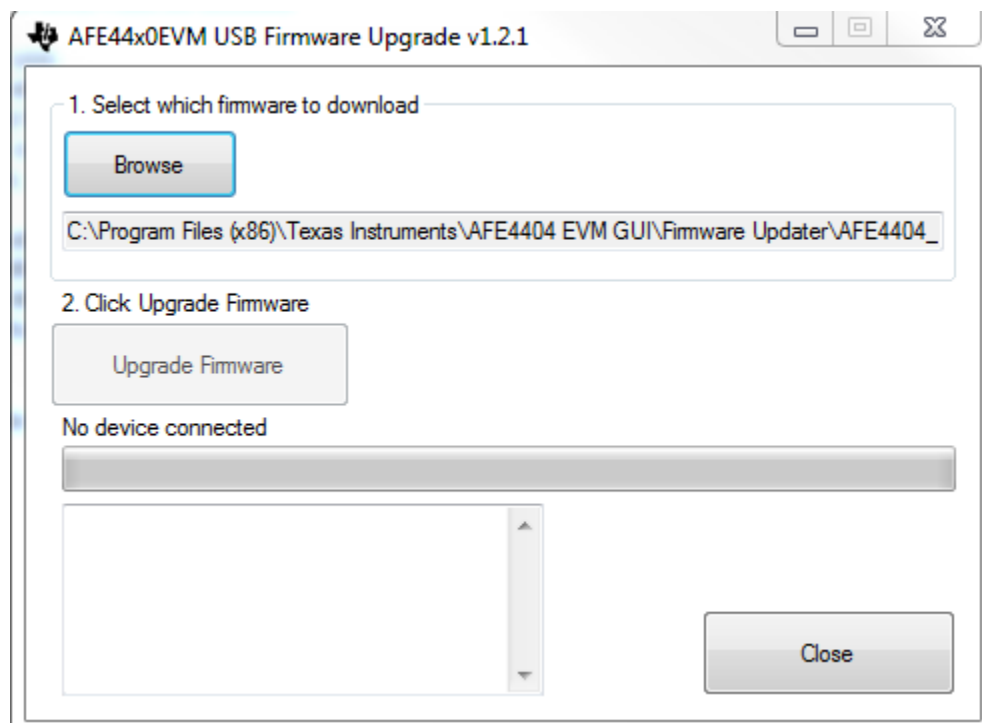

Figure 43. Firmware Loader Application: Select Firmware
- On a Windows 7 or Windows 8 operating system (OS): "C:\Program Files(x86)\Texas Instruments\AFE4404 EVM GUI\Firmware Updater"
2. Click the **Browse** button and load the AFE4404 firmware. Figure 43 shows the firmware loader application with the appropriate firmware selected. The firmware is located in the "C:\Program Files\Texas Instruments\AFE4404 EVM GUI\Firmware Updater" directory.